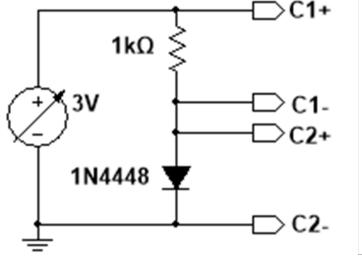

FIGURE 23. Circuit for diode equilibrium.
- (a) **Build** the circuit shown in Fig. 23. Open the Wavegen and **set** the Type to DC. Then enter the desired DC voltage as an **Offset**. **Start** with **Offset** = 1 V. Open the **Voltmeter** instrument and click on the gear to set **Update** = 1 s. **Configure** the two scope channels to measure the voltage across the diode  $V_D$  and resistor  $V_R$ . **Sum**  $V_D$  and  $V_R$  to determine the total applied voltage rather than assuming it is the value requested from the Wavegen. The output impedance of the Wavegen makes the applied voltage slightly less than the requested value. **Use** the voltage across the resistor to compute the current through the diode  $I_D = V_R/R$ . **Determine**  $V_D$ ,  $I_D$ , and the total applied voltage for programmed voltages 1 V, 3 V, and 5 V.